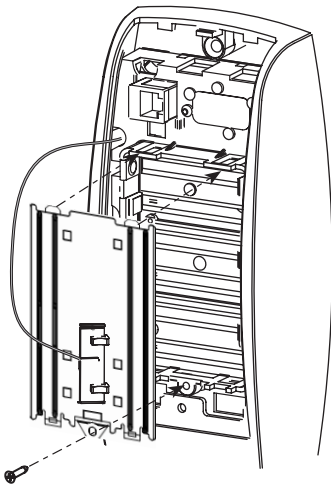

Fig. 13B
2. Unscrew the bottom screw of the battery keeper and remove the battery keeper, being careful not to break the tabs at top that hold it in place (Fig.13B)
3. Place (6) “AA” alkaline batteries in the compartment, being careful to align polarity properly.
4. Replace battery keeper being careful to engage tabs at top to hold it in place (Fig. 13B).